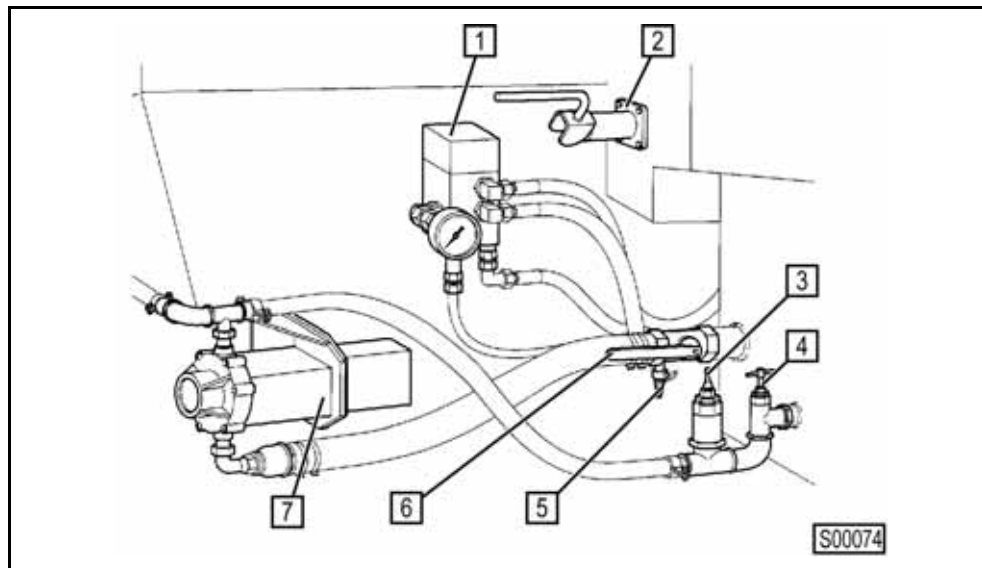

Fig. 188 Water pump system
Caption (Fig. 188)
The hydraulically powered water pump (7) (**Fig. 188**) is located to the left of the boom column. It supplies the water necessary for machine cleaning, filling of the water box and preparation of a lubrication mixture to the ball valves on the right rear of the machine.
- Open the ball valve (6) (**Fig. 188**) in the suction pipe of the water pump.
- Close the ball valve (6) (**Fig. 188**) to prevent the water case from running dry.
- Open the drain cock (5) (**Fig. 188**).
The system's hydraulically powered high-pressure water pump (7) (**Fig. 188**) is located near the water case.